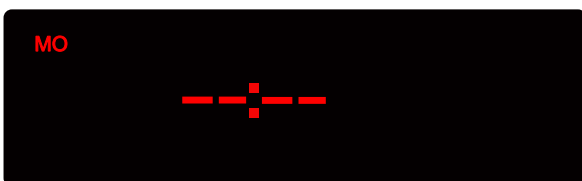

FIG: 04
3. PRESS THE TIME SETTING BUTTON AND THE DAY YOU ARE SETTING WILL FLASH - FIG 04